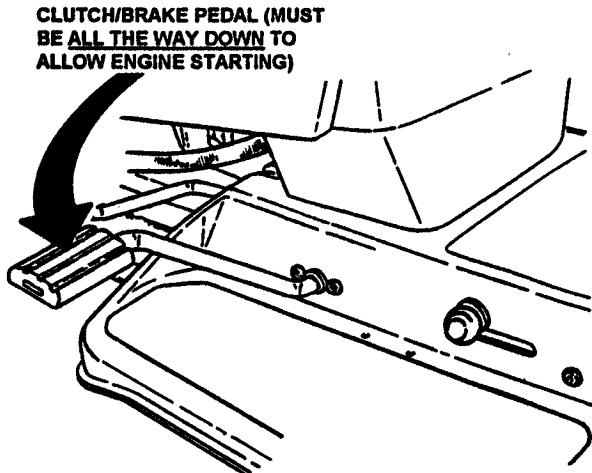

FIGURE 7
2. Push Clutch/Brake Pedal ALL the way down! The engine cannot be started if this is NOT done. See Figure 7.